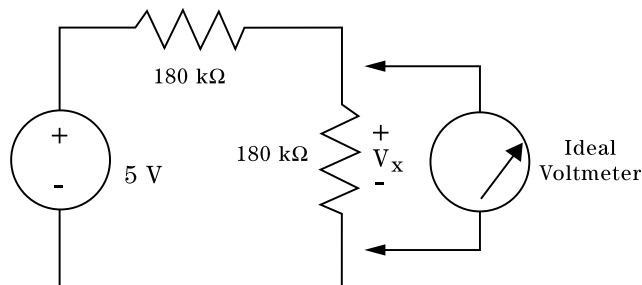
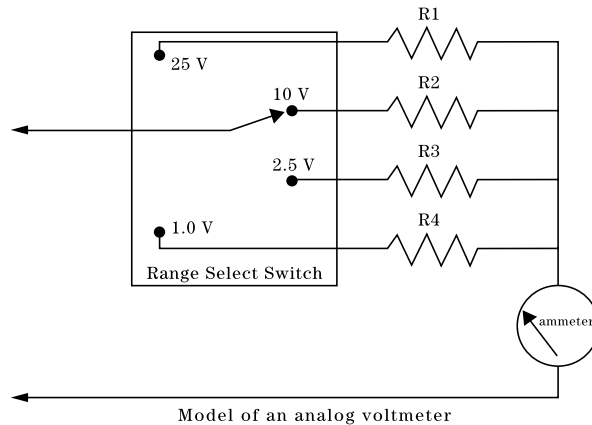

Figure 1
Figure 2
- Consider the circuit of Fig. 1. Suppose you wish to measure the output, V_x . From voltage division, you expect to read 2.5 V. You carefully wire up the circuit and, with an analog voltmeter, measure a much lower voltage! What happened? The problem is one of "loading." This happens to some degree in ALL measurements. Adding test equipment to the circuit changes the circuit-under-test. In previous lab exercises this has gone unnoticed because the effect is very small with a digital meter. Loading is much more pronounced with an analog meter. This lab examines why this occurs and how an OP AMP can be used to correct the problem.
- Use the voltage divider equation to show that for the circuit of Fig. 1 the anticipated value of V_x is indeed 2.5 V. Figure 2 shows a model of the analog voltmeter (AMM). The meter movement is actually an ammeter, with a resistance very near zero. It is made to act like a voltmeter by inserting a carefully chosen series resistor. For the circuit of Fig. 1 compute the anticipated value of V_x , if measured using the non-ideal voltmeter. Assume the meter resistance plus the scale resistor equals 50 k Ω .
- a. Configure the power supplies to provide $\pm V_{CC}$. Refer to Fig. 1 in Lab VI as a guide. Adjust the output of the supplies so that $\pm V_{CC}$ is ± 15 V.
- a. Connect the circuit shown in Fig. 1. Measure the output, V_x , with the analog voltmeter. Does it indicate the predicted voltage? It will not because the analog meter draws current to deflect the needle, thus “loading” the voltage divider circuit.